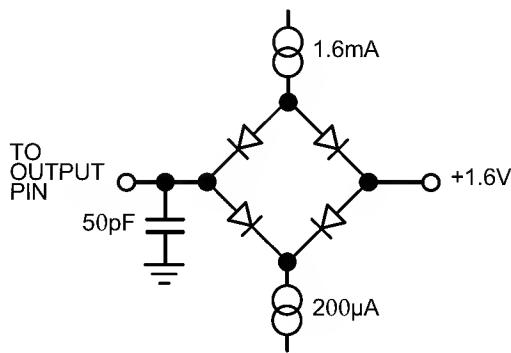

Figure 1. Load Circuit for Access Time and Bus Relinquish Time
**NOTES**1Sample tested at +25°C to ensure compliance. All input signals are measured with tr = tf = 1 ns (10% to 90% of +5 V) and timed from a voltage level of +1.6 V.2See Figures 2a - 2d.3Measured with the load circuit of Figure 1 and defined as the time required for an output to cross 0.8 V or 2.4 V.